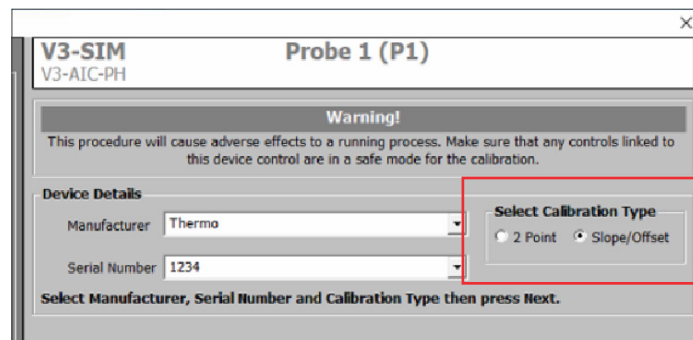

Figure 3.19. Slope/Offset selected as Calibration Type.
2. Select the **Slope/Offset** radio button under **Select Calibration Type** (Figure 3.19).